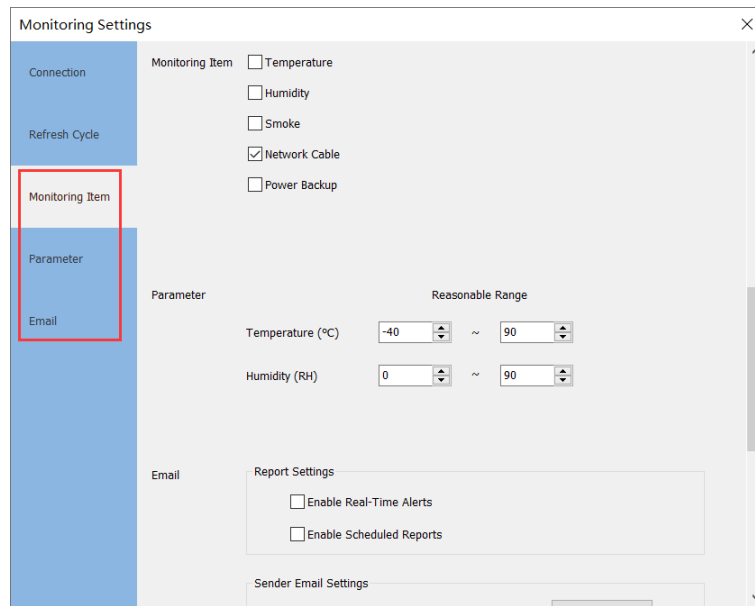

Fig 10.2 Set monitoring item
Step 2: Click **Settings** to open the **Monitoring Settings** dialog box. Configure the settings for **Monitoring Item**, **Parameter Range** and **Email Settings**, as shown in Figure 10.2.